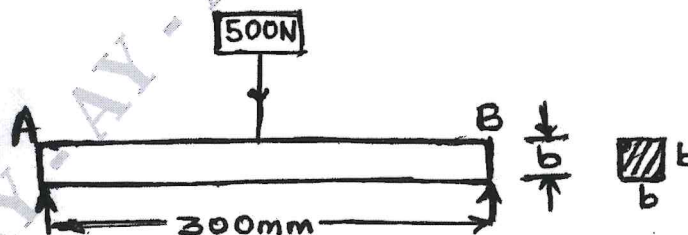

Fig Q2(b)
- b. A 500 N weight dropped through a height of 25 mm impacts the centre of a 300 mm long simply supported steel square beam. If the maximum allowable bending stress is 90 MPa, find the dimension of side of the beam and the maximum deflection. Neglect the inertia effect. Take $E = 200 \text{ GPa}$, (refer Fig Q2(b)).